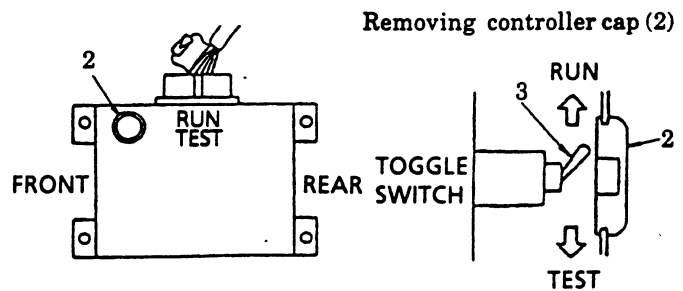

Fig. 7 Direction of pushing the adjust switch in the controller
- ⚠** The power supply turns off four seconds after the engine key is turned to "OFF". If the internal adjusting switch (3 of Fig 7) is moved over when the power is on, adjustment data may be lost. Be careful if the engine key is set to "OFF" while performing mechatronic adjustment.